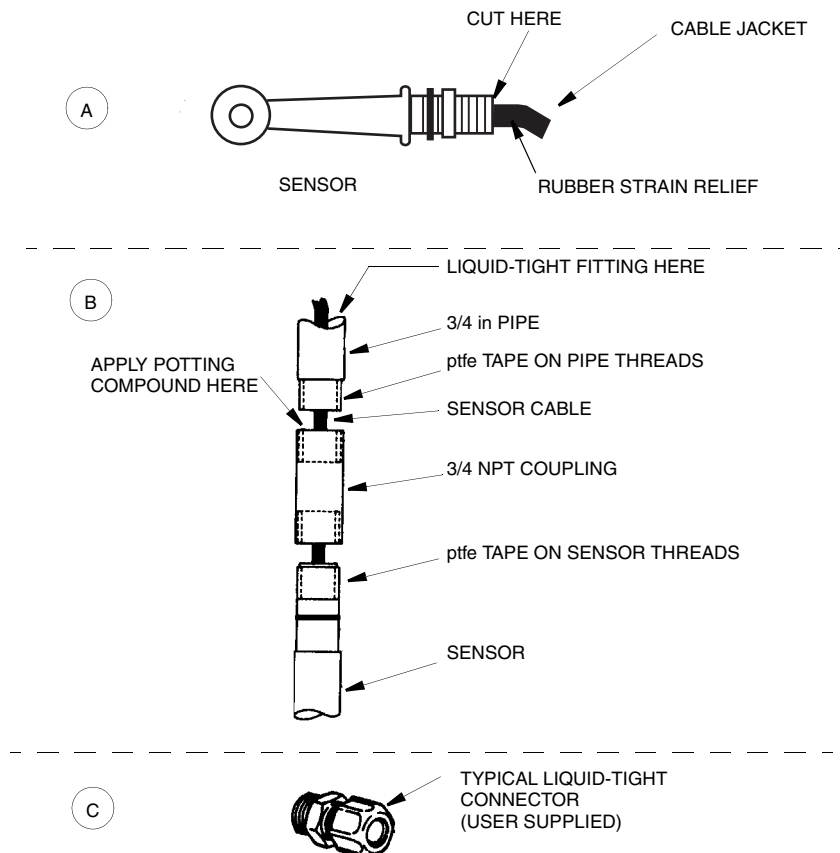

Figure 11. Typical In Situ Installation
1. Cut (as close to the end of the sensor as possible) and remove the rubber strain relief. See Figure 11(a).
2. Wrap several thicknesses of ptfе tape on the sensor threads. See Figure 11.
8. Install liquid-tight connector (user supplied) into the top of the pipe. See Figure 11(c).